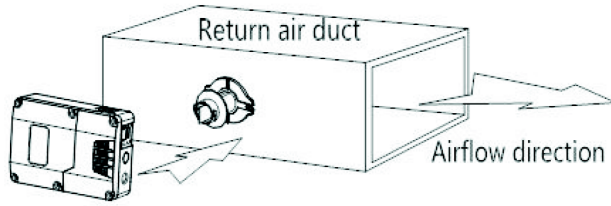

Fig. 18.
8. Install the main unit. Connect the main unit horizontally with the pitot tube interface (as shown in Fig. 18)